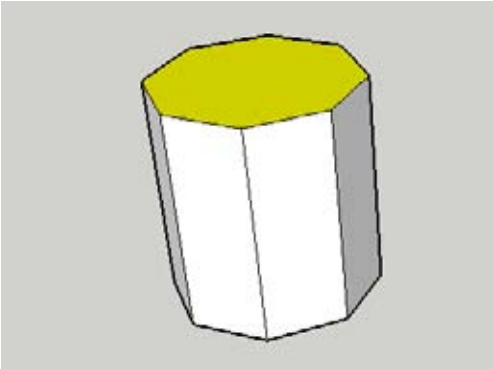

Figure 5-75
1. Start with an octagon and pull it up (Figure 5-75).